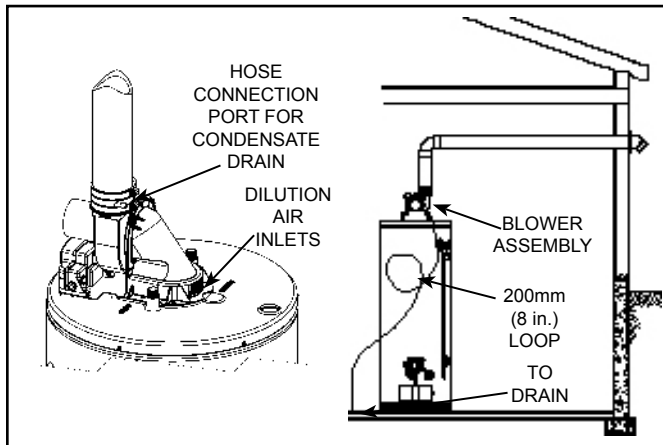

Figure 24
1. This power vented water heater comes with blower assembly installed (see Figure 24).
Condensate formation does not occur in all installations of power vented water heaters, but should be drained on installations where it can form in the venting system. Condensation in the venting system of power vented water heaters is dependent upon installation conditions including, but not limited to, ambient temperature and humidity of installation location, ambient temperature and humidity of venting space, vent discharge and slope, and product usage. In certain conditions, installations in unconditioned space or having long horizontal or vertical vent runs can accumulate condensate. Long lengths of venting that pass through cool/cold areas will experience condensation. The vent pipe should be sloped upwards away from the blower assembly, then adequate means for draining and disposing of the condensate needs to be made by the installer. If installation conditions cause condensation, install a condensate trap loop approximately 200mm (8 in.) in diameter using 3/8 in. plastic hose. Connect the hose to the built-in drain port of the rubber coupling of the blower assembly (see Figure 24). Loop the hose in a vertical position as shown. The tube loop must be filled with water at least half way prior to operating the heater. Ensure the end of the tube has access to a drain as condensate will flow from the end. Secure the tubing to the side of the heater. Prior to operating the water heater,